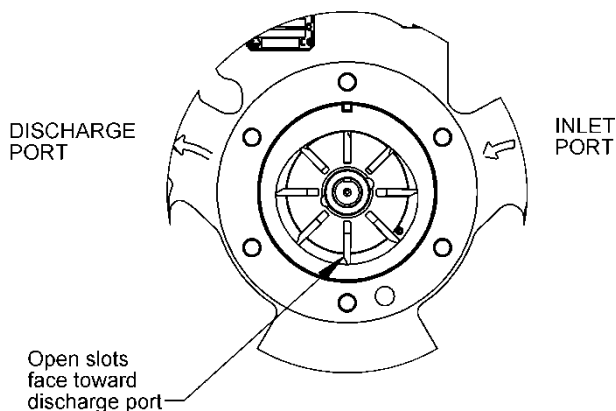

Figure 7. Vane Installation
3. Turn the shaft by hand until a vane (14) comes to the bottom (6 o'clock) position of the rotor. Remove the vane.
4. Install a new vane (14), ensuring that the rounded edge is DOWN, and the relief grooves are facing towards the discharge port. See Figure 7.
19. Install a new vane (14), ensuring that the rounded edge is DOWN, and the relief grooves are facing towards the discharge port. See Figure 7. Repeat for all eight vanes.